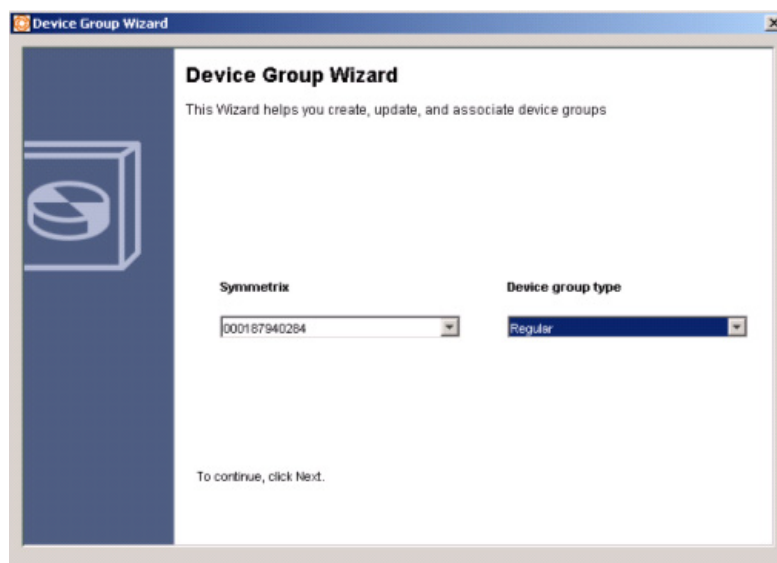

Figure 11-2 Device Group Wizard Dialog Box
2. Use the shortcut menu and select **Data Protection, Device Groups, Create**. The Device Group Wizard dialog box appears (Figure 11-2).